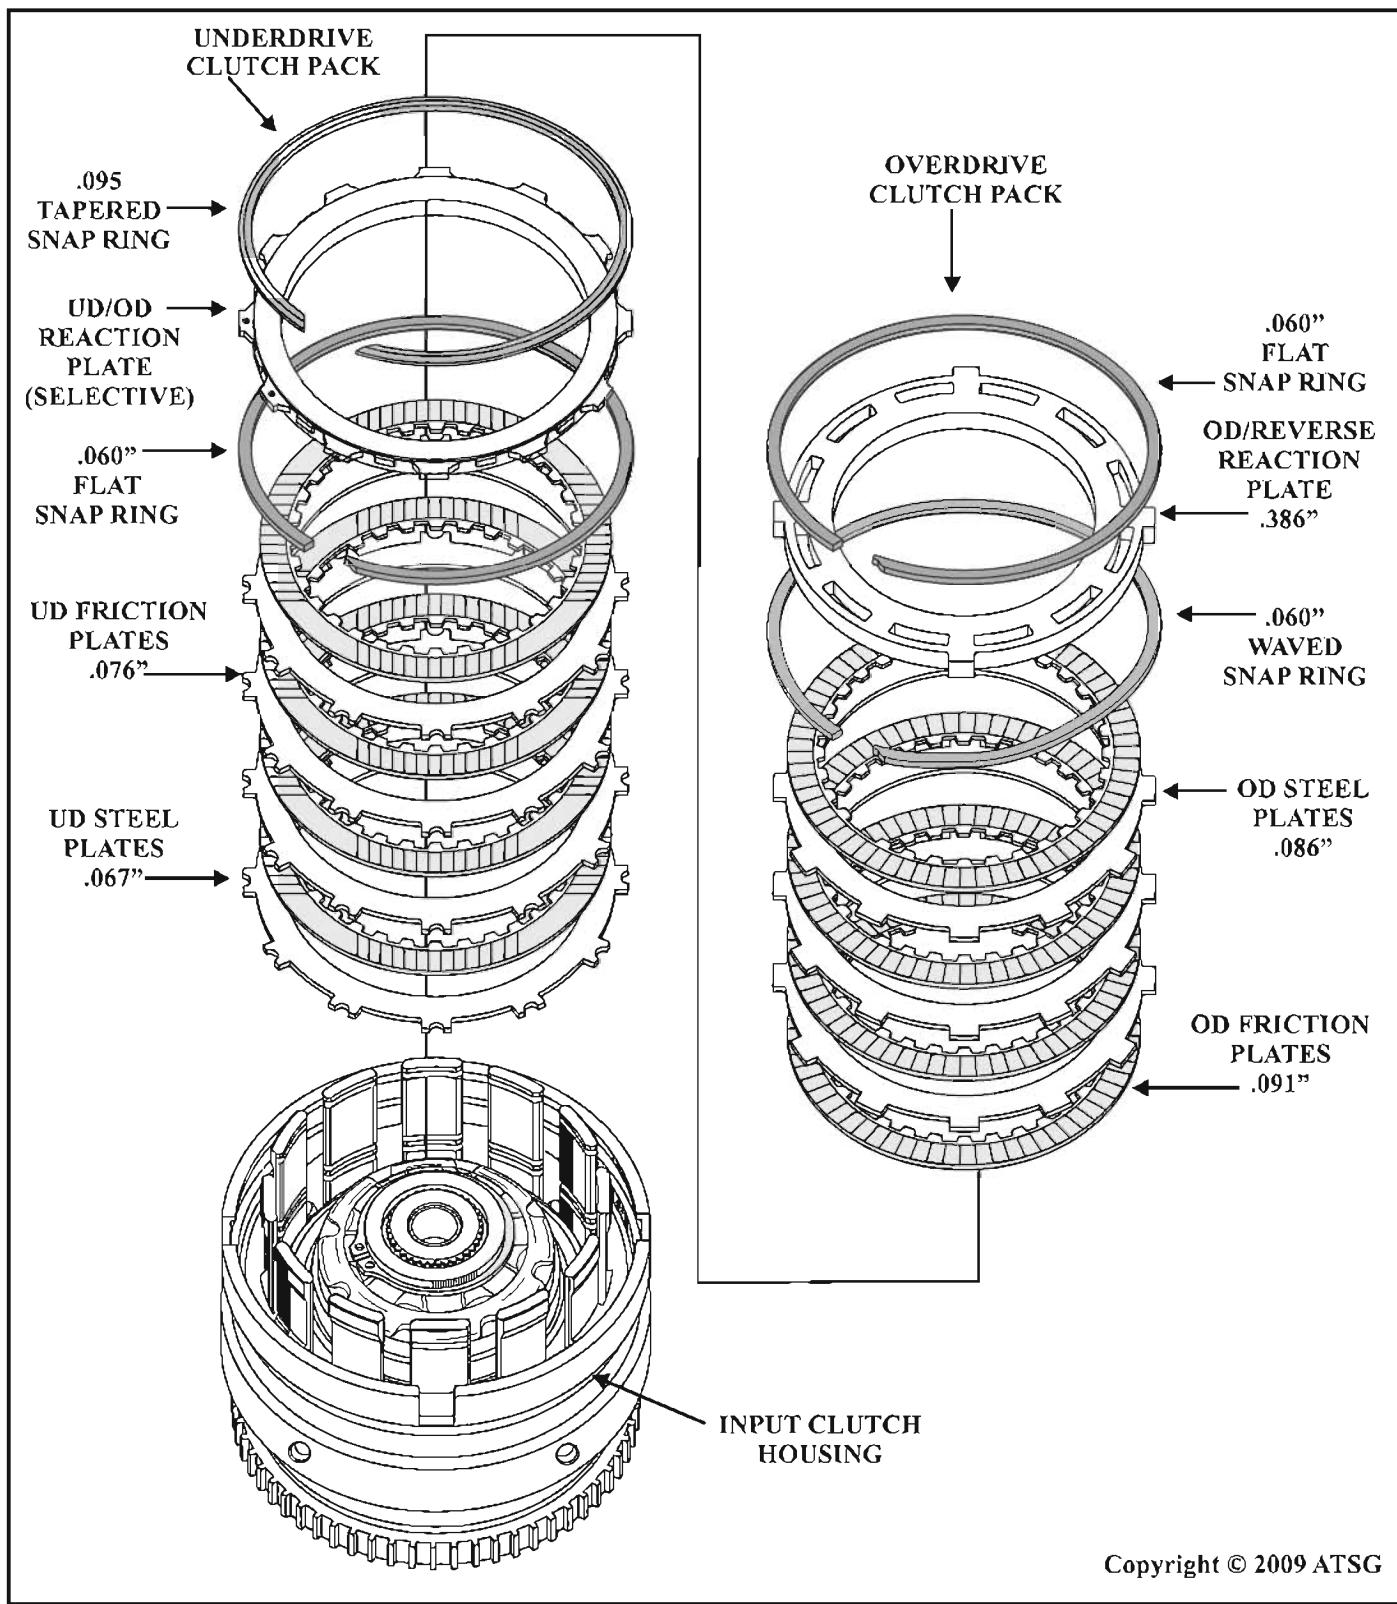

Figure 3
**CORRECTION:** Make certain that the thinner underdrive friction plates are stacked in the underdrive clutch pack, (Refer to figure 3).